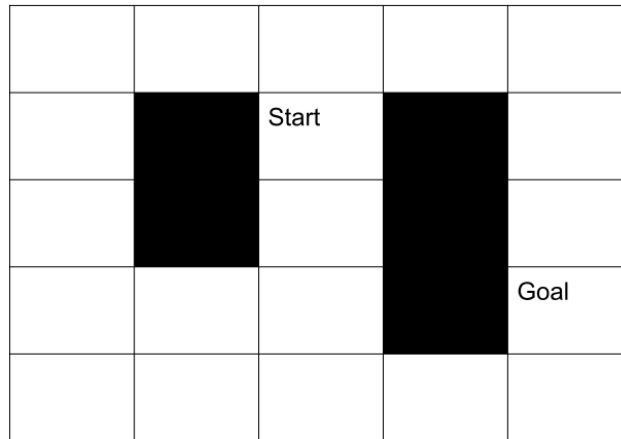

Figure 2: Grid for wavefront question. Black cells are obstacles.
1. Label the grid in Fig. 2 with the numbers that would be produced by a wavefront planner using 8-point connectivity. When doing so, label the goal with 0. Draw a path from start to goal that could be returned by this wavefront planner. [4 points]